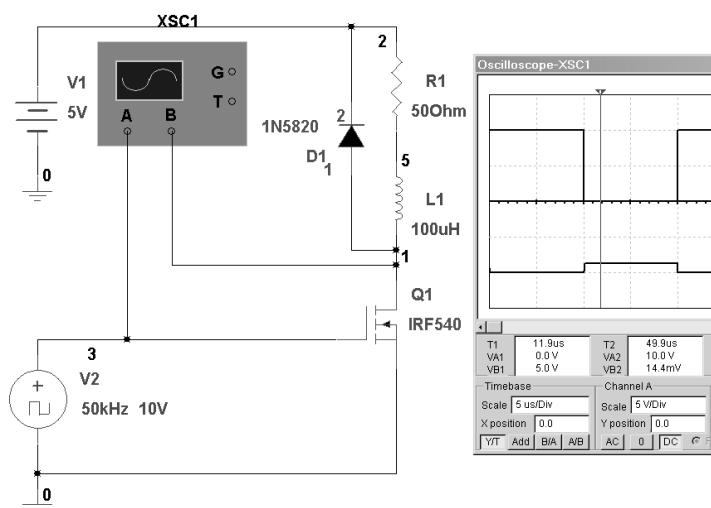
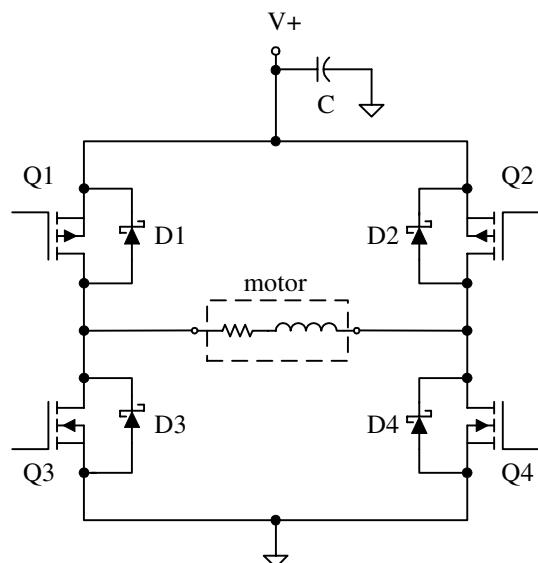

Figure 9-33 Effects of the flyback diode
Figure 9-34 Flyback diodes for an H bridge
3. Figure 9-33 shows the effect of adding a 1N5820 diode across the motor. The kickback is shorted out and the circuit performs correctly.
The solution is shown in Figure 9-34. Protective diodes are placed across each of the transistors of the H bridge. When Q1 and Q4 turn *on*, voltage is impressed across the motor + to –, turning the motor in one direction. When these transistors turn *off*, at the end of that pulse, the voltage across the motor flies back, – to +. This turns D2 and D3 *on*. The flyback current flows through D2, the decoupling capacitor, and D3.
These motors are inexpensive to build and relatively easy to control. They are used in everything from toys to industrial manufacturing robots. If your goal is to just turn the shaft, more or less, at a given speed, then connect the motor to a voltage supply and adjust the energy to the armature by pulse width modulating the low side switch. This is illustrated in detail in Chapter 6 and also in Example 9-10 and Figure 9-33. Adjusting the duty cycle controls speed. If you want to control direction as well as speed, use the H bridge shown in Figure 9-34. The decoding circuitry and drive ICs in Figure 9-25 or Figure 6-29 allow you to command the motor directly from TTL ICs or a microprocessor.